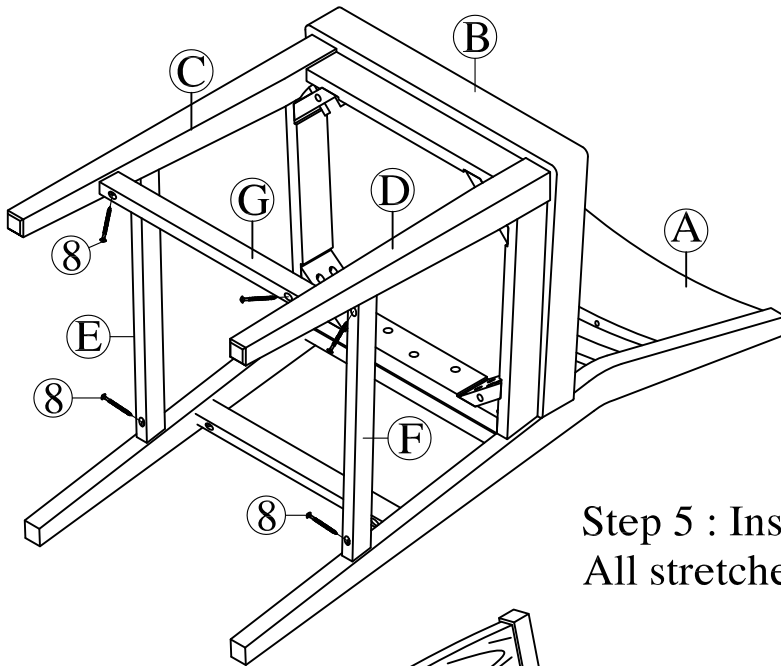

Fig.5
Step 5 : Insert Wood Screw (8) to fasten All stretchers (E, F, G) as shown on Fig. 5.